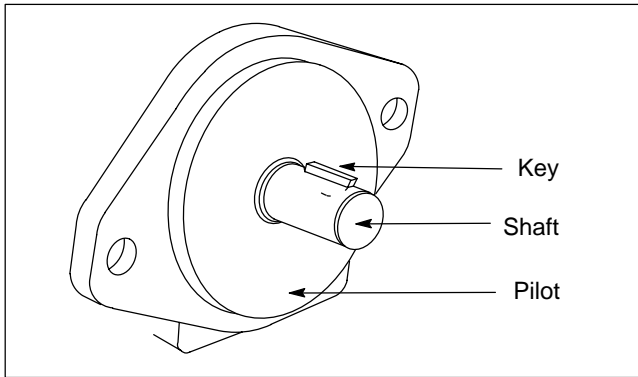

Figure 5
1. Direct Mounting – A pilot on the pump mounting flange (Figure 5) assures correct mounting and shaft alignment. Make sure the pilot is firmly seated in the accessory pad of the power source. Care should be exercised in tightening the mounting screws to prevent misalignment.